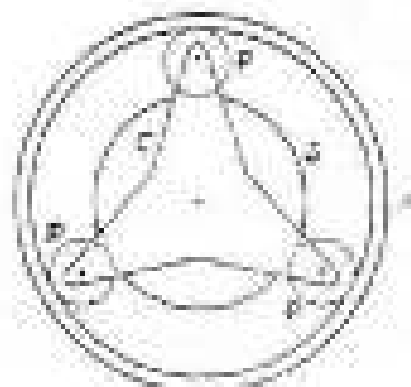

Fig. 2b
- b) An epicyclic gear train for an electric motor, is shown in Fig. 2b. The wheel S has 15 teeth and is fixed to motor shaft rotating at 1450 rpm. The planet P has 45 teeth, gears with fixed annular A and rotates on a spindle carried by an arm which is fixed to output shaft. The planet P also gears with the sun wheel S. Find the speed of output shaft. If motor is transmitting 2 HP, find the torque required to fix the annular. [10]